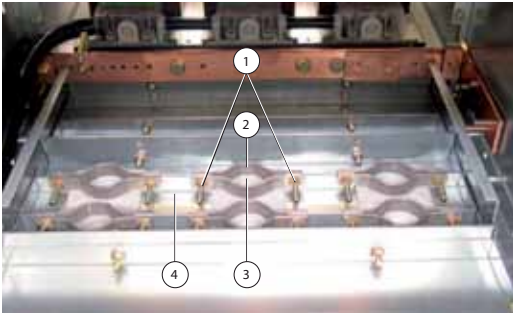

Fig. 6.3
- Remove cable clips and rubber sleeves (Fig. 6.3).